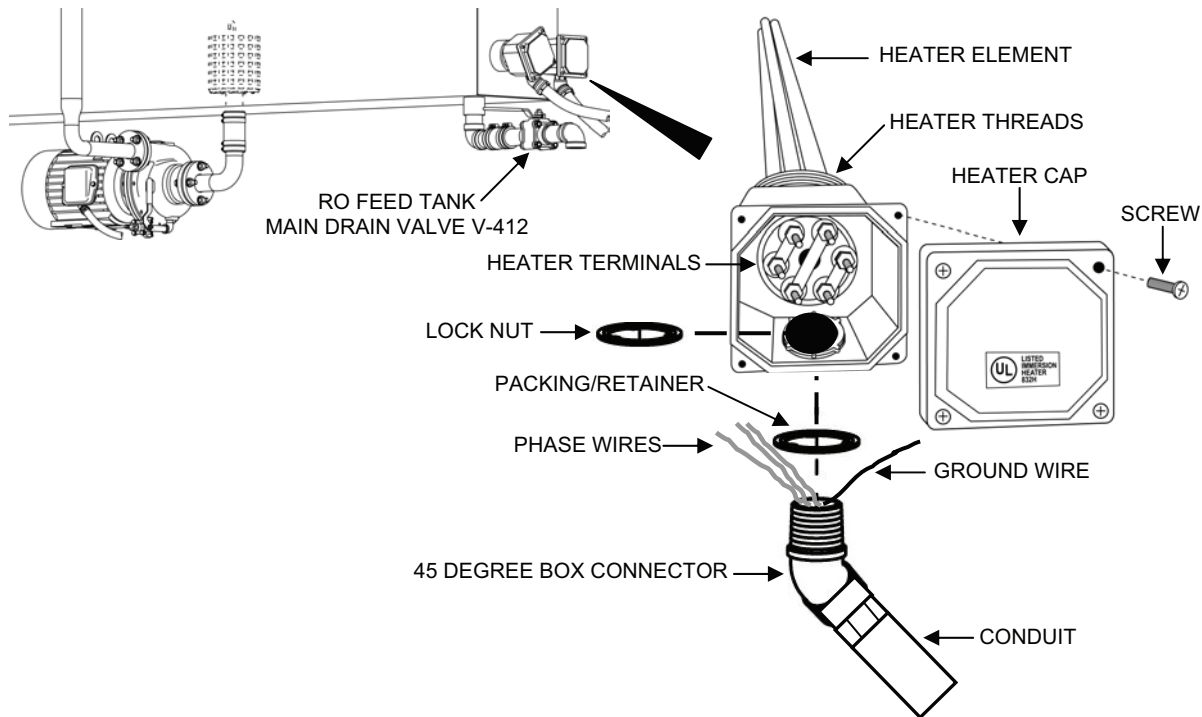

Figure 2. RO Feed Tank Heater Replacement.
1. Remove an RO feed tank heater from the tank as follows (see Figure 2):